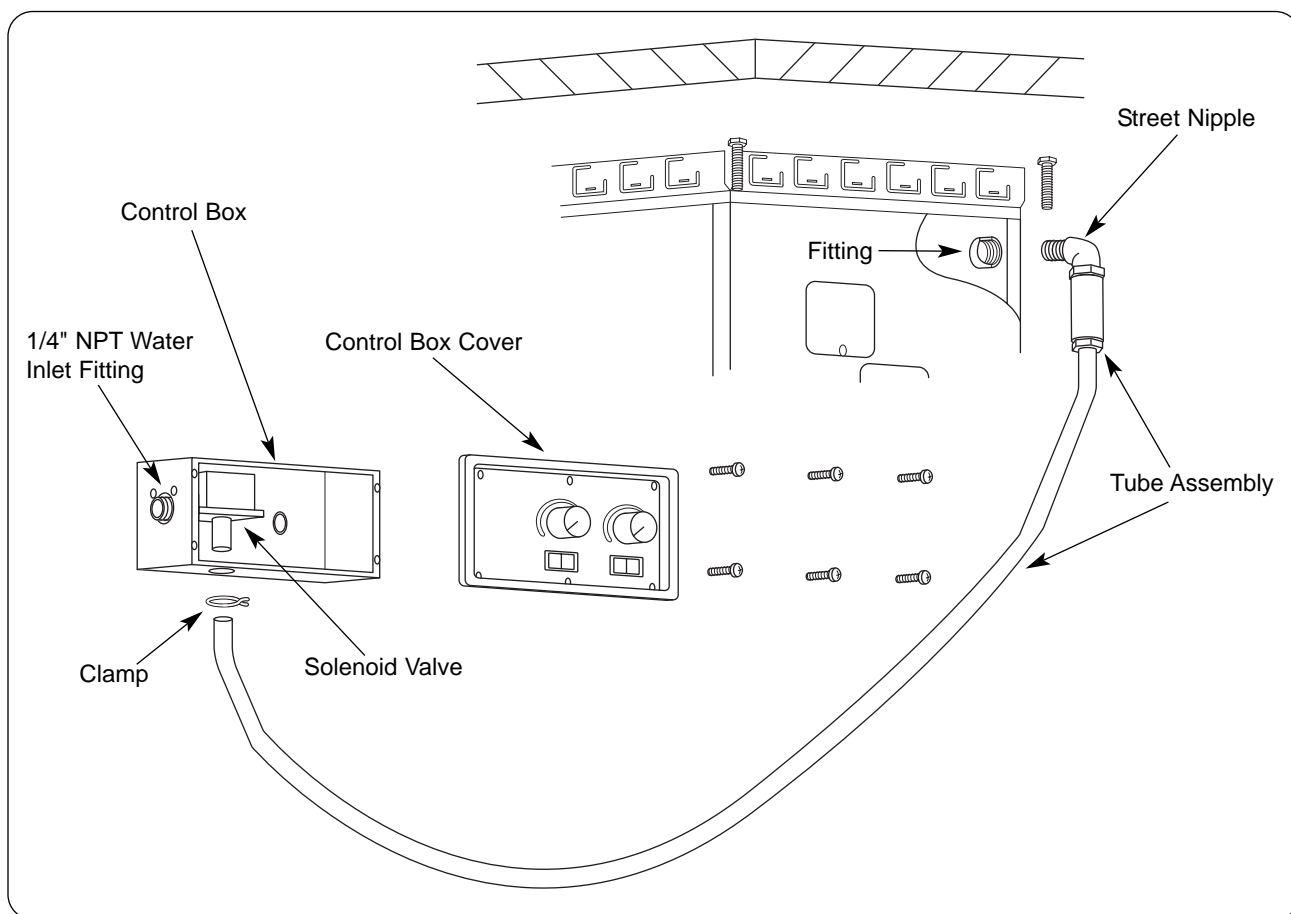

Figure 13. Auto-Fill Connection
1. Apply Teflon tape to elbow threads and connect the elbow onto the fitting located in well. (See Figure 13.)